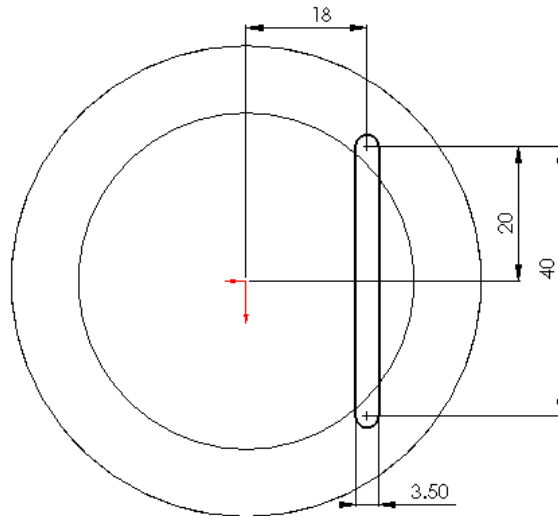

Figure 8-72 Sketch for the cut feature
- Create a cut feature on the top planar face of the base feature, refer to Figure 8-72.
2. Create the sketch of the cut feature and add the required relations and dimensions to the sketch as shown in Figure 8-72.